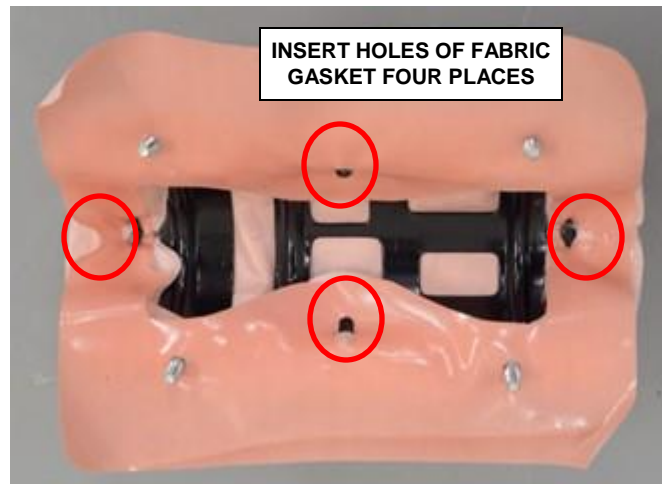

Figure 83 – Fabric Gasket
- g. With the help of a trim tool insert the holes of fabric gasket, four places (Figure 83).